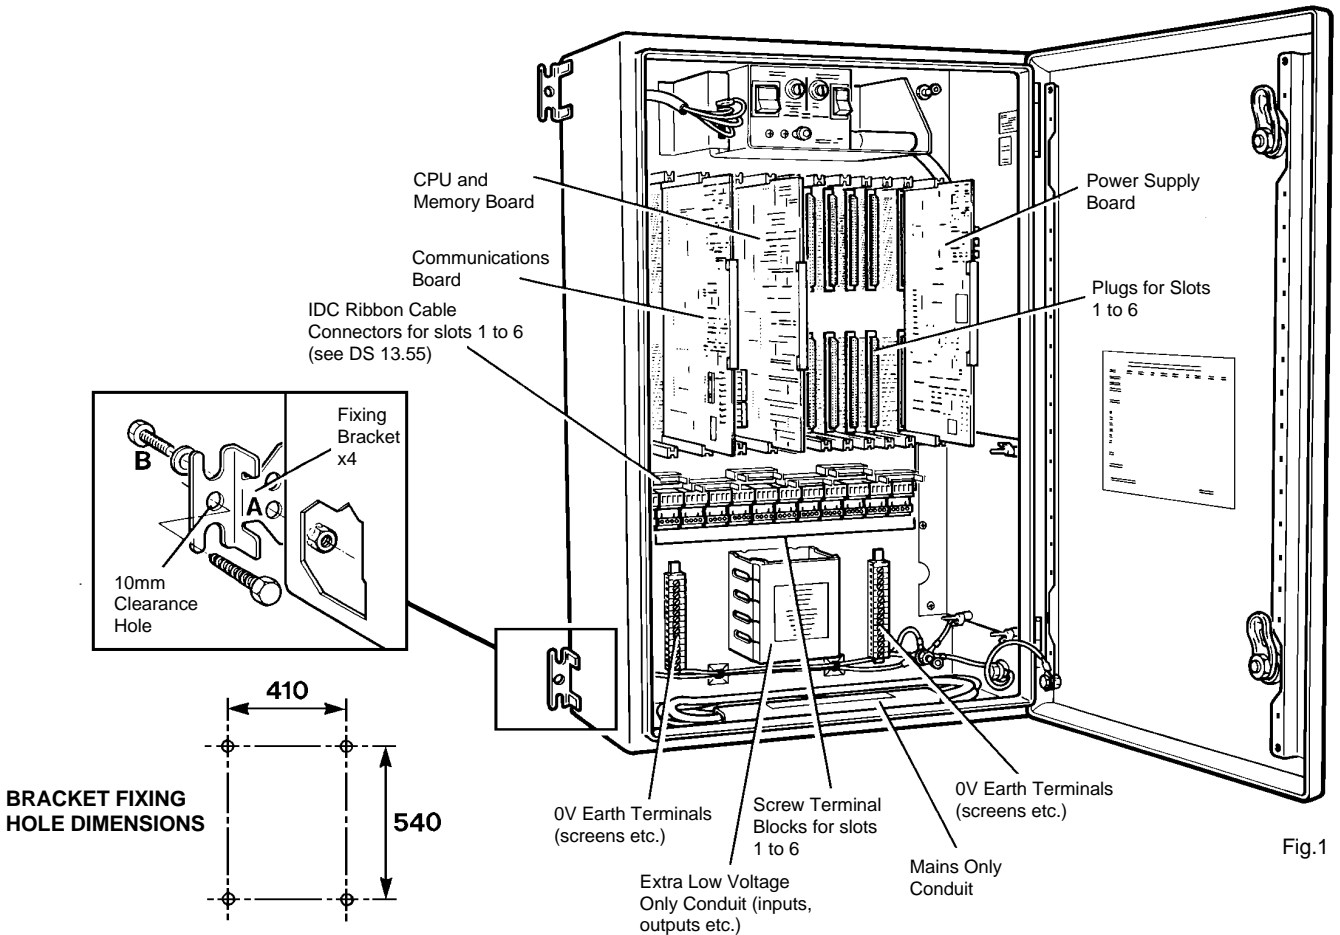

Fig.1
1. Fix brackets 'A' (4 off), one to each corner of the outstation, using bolts 'B' as shown in fig.1.